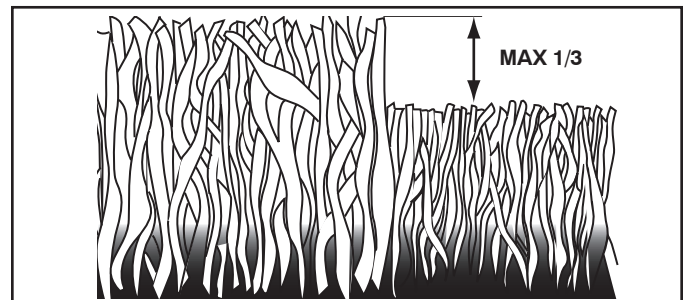

Fig. 29
- For best results, adjust the mower cutting height so that the mower cuts off only the top one-third of the grass blades (See Fig. 29). For extremely heavy mulching, reduce your width of cut on each pass and mow slowly.